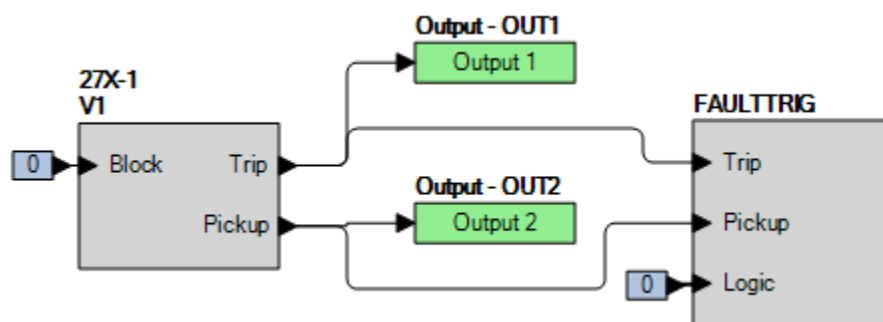

Figure 58-2. BESTlogicPlus Settings (V1 Mode)
- Step 2: Use BESTCOMSP_{Plus} to configure the BESTlogic_{Plus} programmable logic shown in Figure 58-2.
- Step 4: Prepare to monitor the 27X-1 function operation. Operation can be verified by monitoring OUT2 (see Figure 58-2).